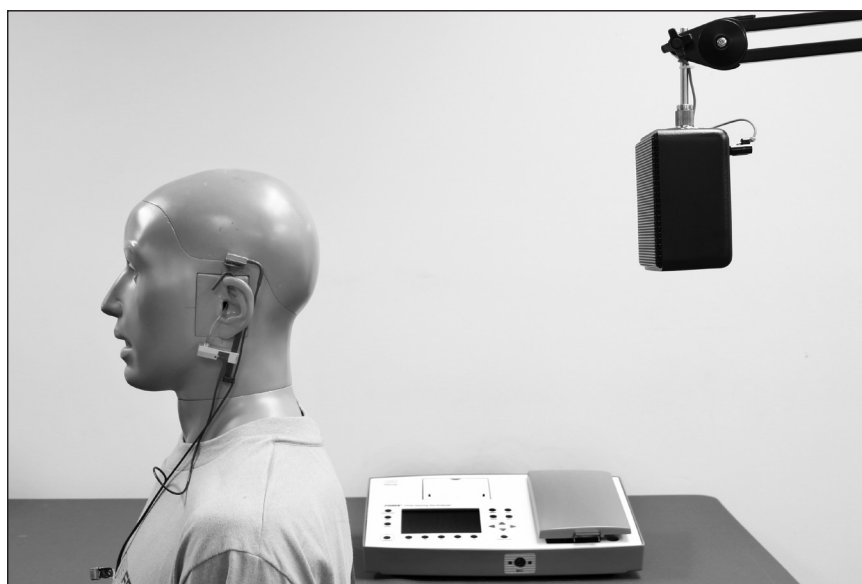

Figure 5.4.5A—“Reverse” directional aid setup
9. Turn your client around so that the back of his head is facing the speaker. See Figure 5.4.5A. Alternately, if you are using an external speaker on a swing arm, you can swing the speaker around in back of the client.